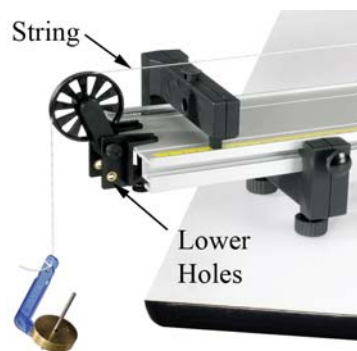

Figure 3. Pulley
7. Make sure the pulley is connected to the clamp using the upper set of holes (see Fig. 3). Clamp the pulley to the end of the track, and place this end over the edge of the table.